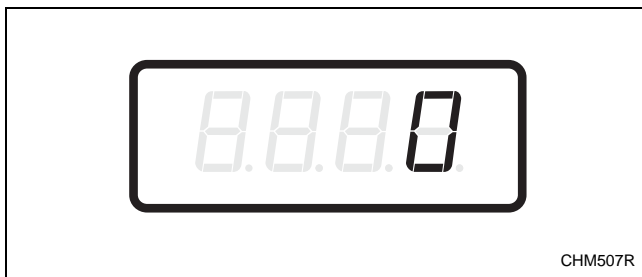

Figure 3
4. There are five digits in Normal/Hot Vend Price. The fifth digit will appear in the display and will flash one (1) second on, one (1) second off. Refer to *Figure 3*.